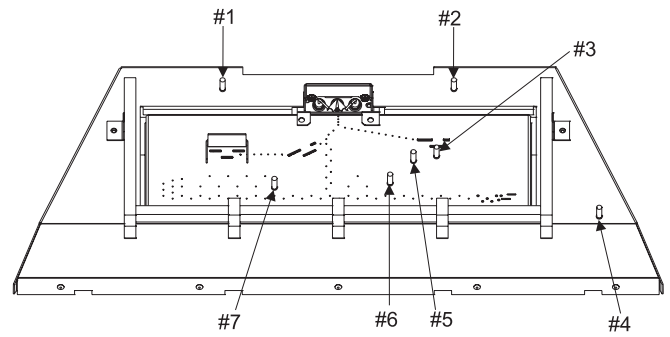

Figure 18
1. Place Rear Log (A) onto burner pins #1 and #2. See Figure 18 for burner pin identification.
3. Place Right Log (C) onto the two right pins on (A) log and angled down to sit outside the grate and onto burner pin #4. See Figure 18 for burner pin identification.
4. Place Log Chunk (D) onto burner pins #3 and #5. See Figure 18 for burner pin identification.
5. Place Right Center Log (F) onto the two pins on (C) log and burner pin #6. See Figure 18 for burner pin identification.
- Place Left Center Log (E) onto the two pins on (B) log and burner pin #7. See Figure 18 for burner pin identification.